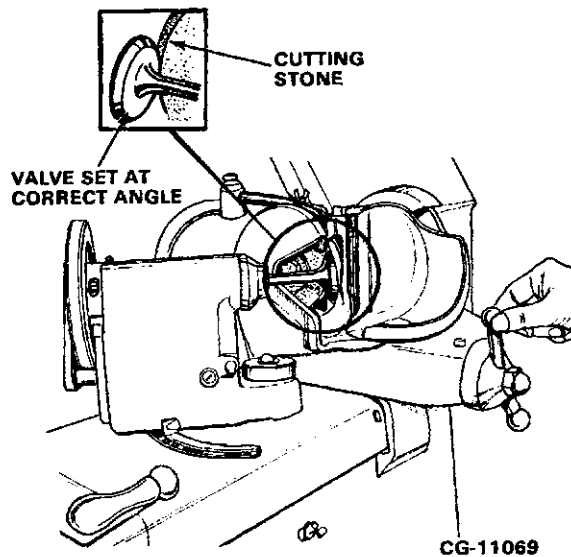

Figure 4.41. Grind Valve Face Angle
c. Grind the valve face. Remove only the minimum amount of material necessary to true up the valve face. Refer to Figure 4.41.